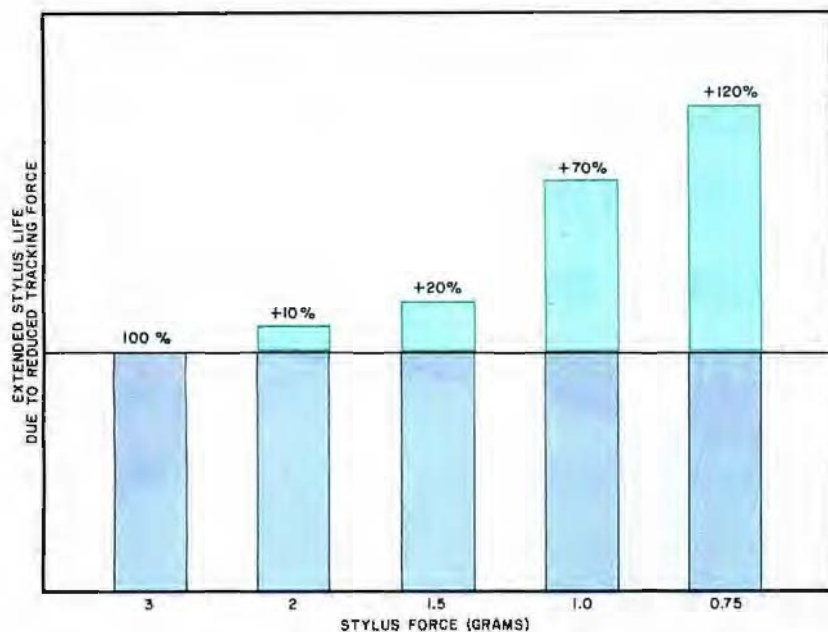

Fig. 2. Shure's studies suggest that stylus forces of 1.5 grams are best for reduced stylus wear.
**Getting Worn.** The perennial questions of consumers as to how long their styli or their records can be expected to last remain unanswered. However, there are some general conclusions that can be drawn at this time. (1) According to Shure, stylus wear is closely related to tracking force, no matter what the configuration of the stylus (conical, elliptical, Shibata, etc.). The bar graph in Fig. 2 illustrates this, and shows why Shure recommends a maximum of 1.5 grams on tracking force. (2) Playing the same record over and over for a given number of hours is likely to result in more stylus